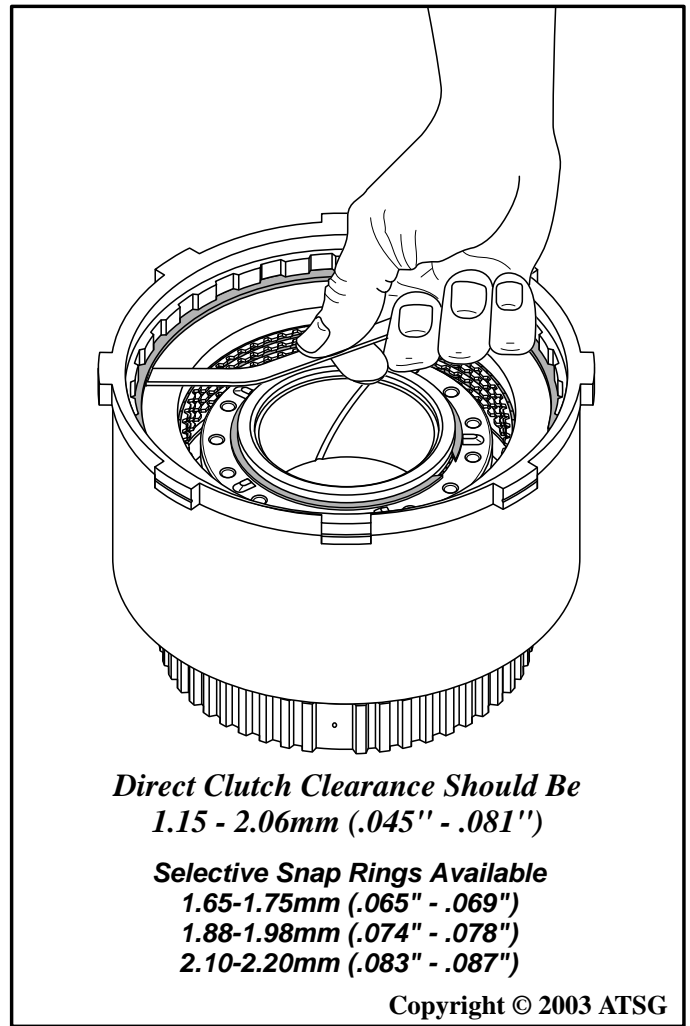

Figure 121
21. Measure the direct clutch clearance between the selective snap ring and the backing plate, as shown in Figure 121.
23. Change the selective snap ring as necessary to obtain the proper clutch clearance. Refer to Figure 121 for snap rings available.